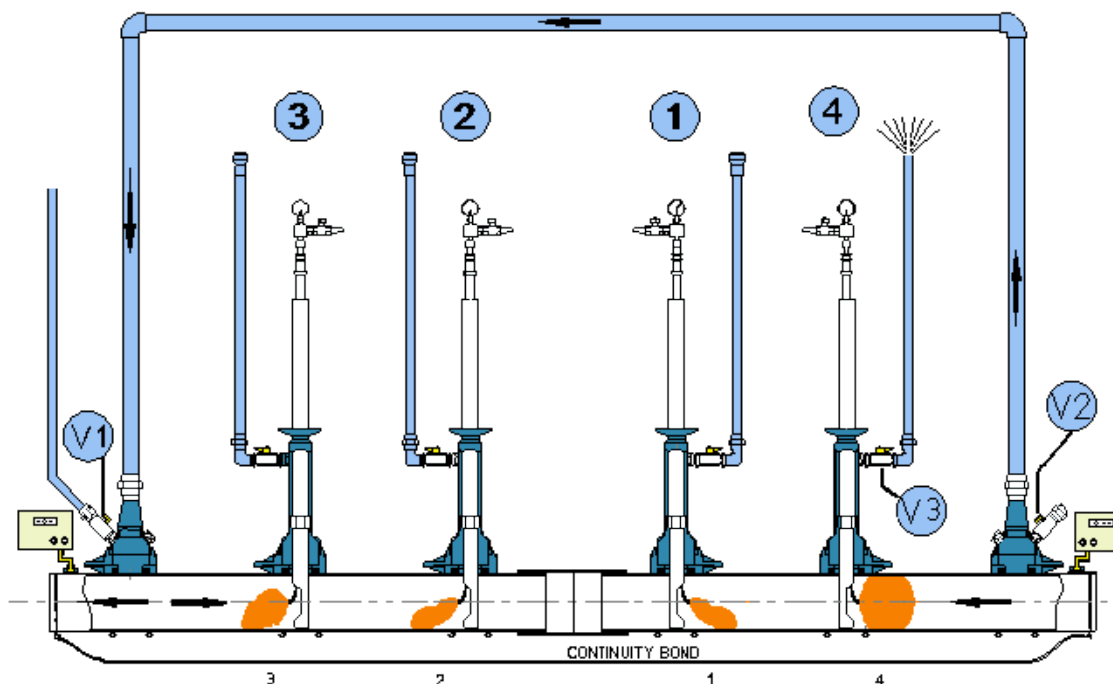

Figure 70- Purging Without Using the Purging Rider
2. Close the vent on bag tube 2 see Figure 70.